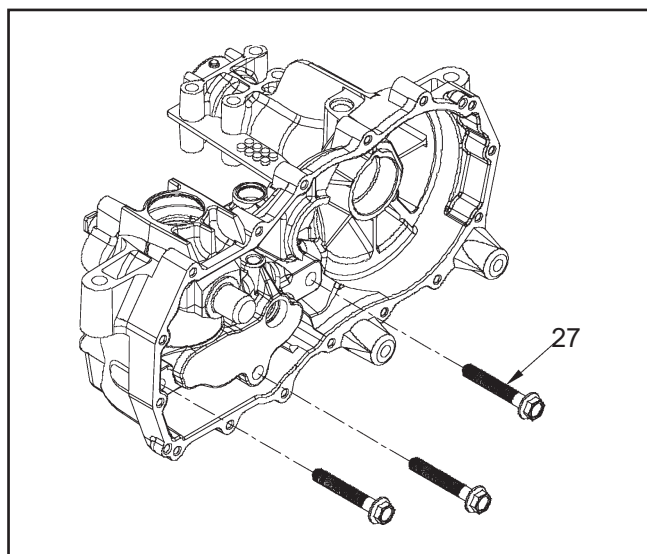

Figure 14.
12. **(See Figure 14, 15, and 16)** Remove the center section mounting screws (27). NOTE: The center section is under motor block piston spring pressure. These screws are factory installed to 700 lb-in (80 Nm) and use an anaerobic thread adhesive. A breaker bar will be required at this step. Clean the internal threads of the mounting holes with compressed air.
9. **(See Figure 14)** After applying thread adhesive, insert the center section mounting screws (27) while holding downward pressure on the center section assembly (20).
10. Tighten the center section mounting screws (27) to the proper torque. Refer to Table 2 page 37. NOTE: The center section must be fully seated into the pilot bore before the screws are tightened. The center section will not self locate.